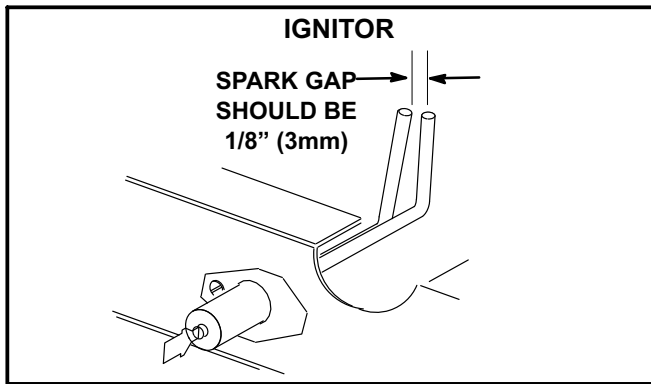

FIGURE 40
- 4- Locate the ignitor under the left burners. Check ignitor spark gap with appropriately sized twist drills or feeler gauges. See figure 40.